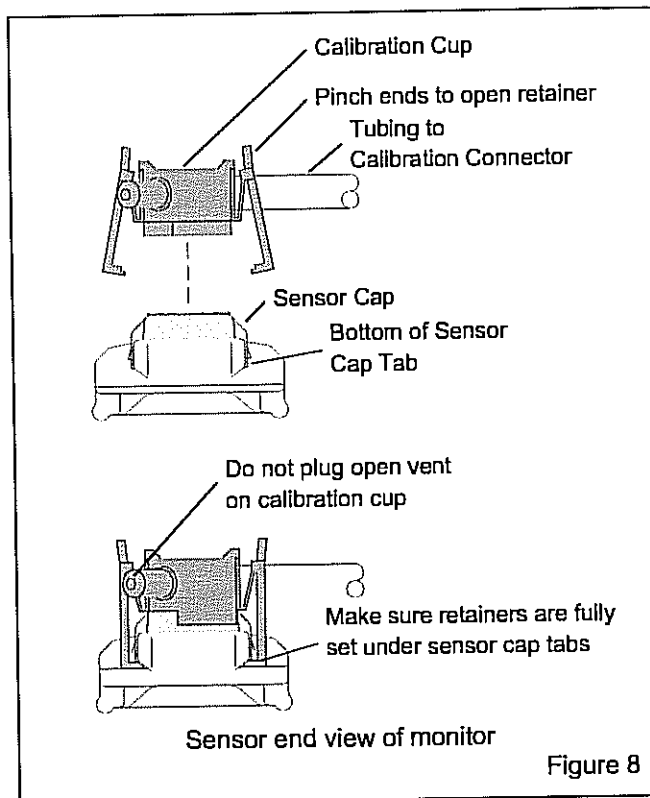

Figure 8
4.1.2.3 Attach the calibration cup to the sensor cap, as shown in Figure 8. The cup opens up like a clothes pin to fit over the sensor cap and locks onto the cap.
4.2.4 Attach the calibration cup to the sensor cap, as shown in Figure 8. The cup opens up like a clothes pin to fit over the sensor cap and locks onto the cap.